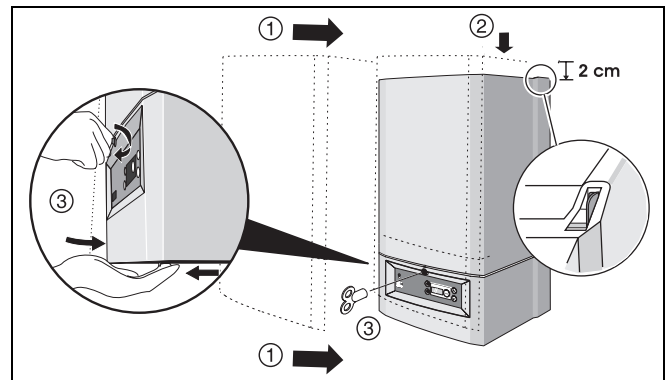

fig. 59 Refit casing
- Refit the casing and secure the boiler with the radiator key (see fig. 59).